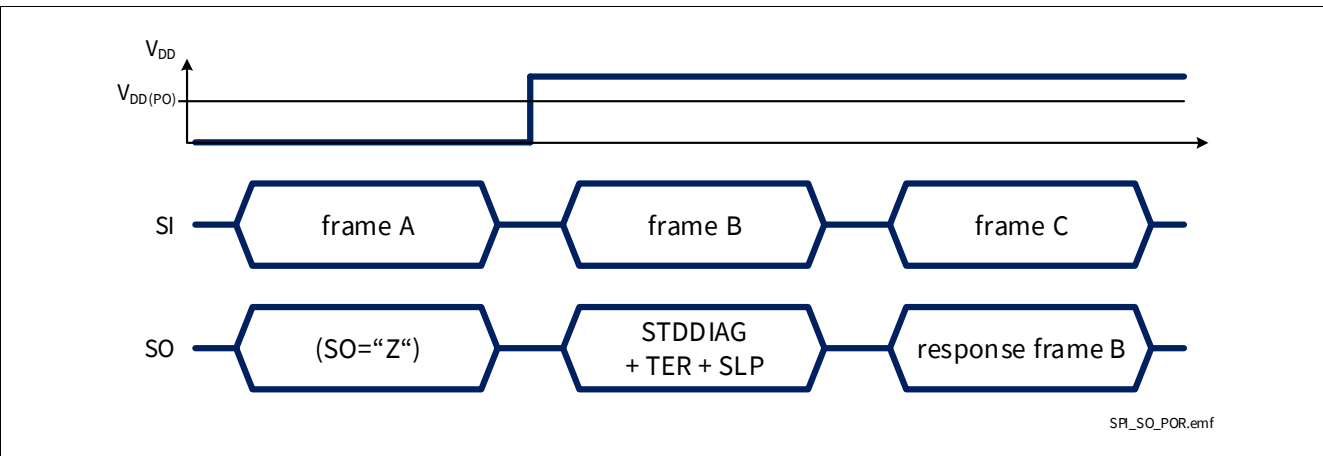

Figure 44 SPI response after coming out of Power-On reset at V_{DD}
- When BTS72220-4ESP digital supply comes out of Power-On reset condition, as shown in **Figure 44**